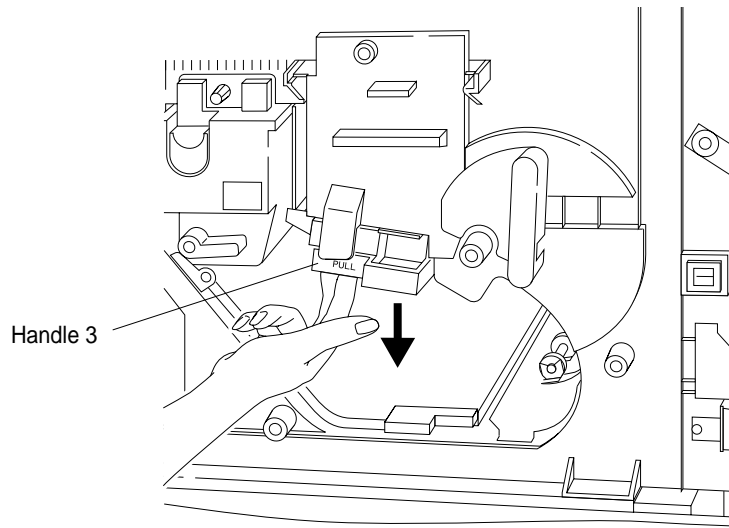

Figure 3-39 Lowering Transfer Assembly
5. Refer to Figure 3-39. Pull out gently on Handle 3 to unlatch and release the Transfer Guide. Gently lower the Transfer Guide and let it rest on the bottom of the printer's interior.